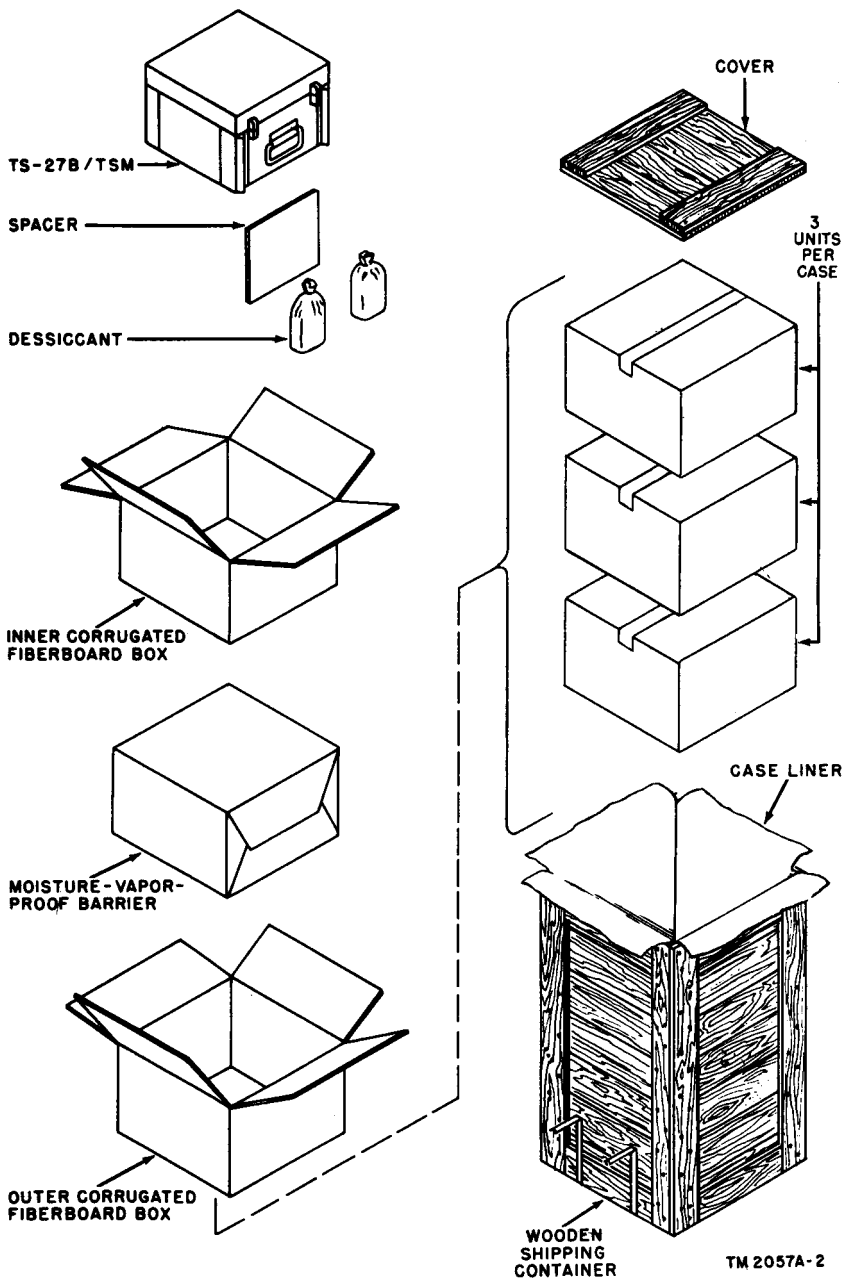

Figure 2. Test Set TS-27B/TSM, Packaging Data.
- c. Remove nails from the top of the shipping container (fig. 2) with a nail puller.